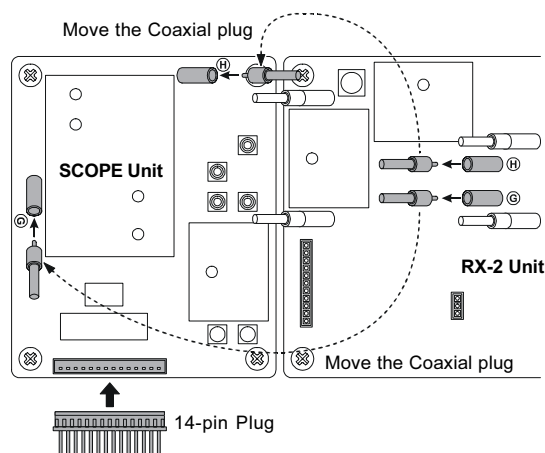

Figure 4
5. Referring to Figure 4, plug the 14-pin plug which was removed from the chassis in the previous step into the J7002 connector on the SCOPE Unit.
6. Locate the Coaxial plugs (labeled © and Ⓜ) installed in jacks (J4508 and J4507) on the RX-2 Unit. Unplug the Coaxial plug (©) from the RX-2 Unit and plug it into the J7003 on the SCOPE Unit. Unplug the Coaxial plug (Ⓜ) from the RX-2 Unit and plug it into the J7001 on the SCOPE Unit (Figure 4).